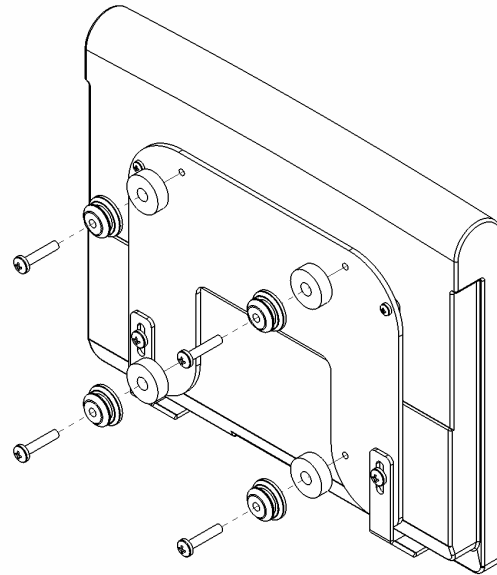

Fig. 4
3. **Attaching screen to FSM or FSR:** Using the Mounting buttons, M4 x 20mm Phillips head screw and .74 x .25 x .25 Nylon spacer from the FSR/FSM hardware kit, attach the mounting button and nylon spacer to the adapter bracket (Fig. 4).